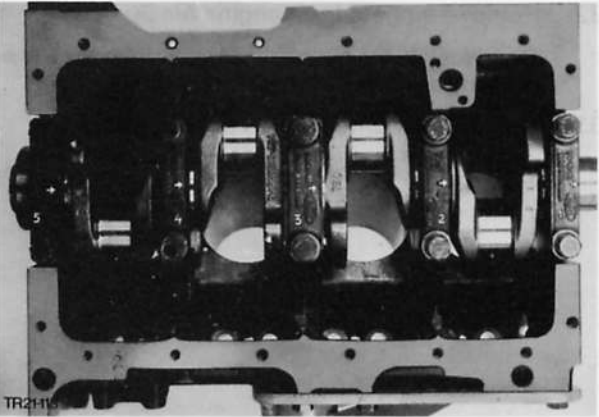

Fig. 61. Main bearing markings
**Note bearing shell and cap markings, Fig. 61.**